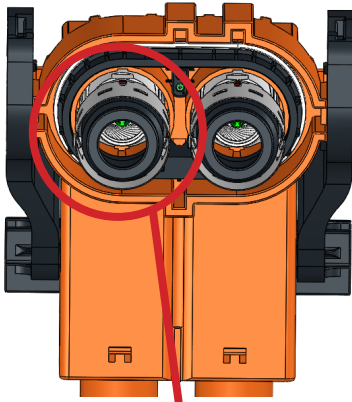

Figure 11.1.1
**Step 11:** Insert sleeve and the front shielding shell into the plug assembly by the manual press with the right position (one convex of insulation plastic sleeve should be toward the groove of shell). (Figure 11.1.1 & 11.1.2)